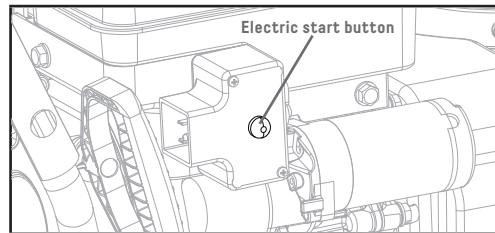

Figure 11D
7. Alternatively for electric start, plug in the supplied electrical cord into the starter. Press the electric start button and make sure that the mains supply voltage is 120 V~ 60 Hz (Fig. 11D).